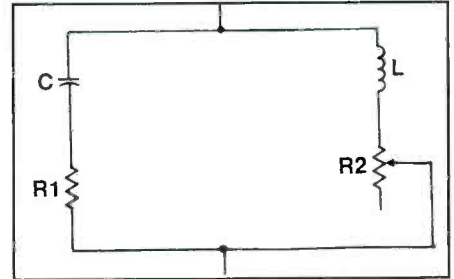

Figure 2. Can you adjust the frequency of this circuit by varying the resistance of R_2 ?
3. Can you adjust the frequency of the circuit in **Figure 2** by varying the resistance of R_2 ?
Figure 2. In pulse-width modulation, energy is stored in a magnetic field during the on cycles of the pulse train. During the off cycles, the stored energy provides output power and compensates for any changes in the line voltage or the load.
Figure 2 provides an illustration of pulse-width modulation. In the figure, the on-cycles of the pulse train energy double as the time periods for storing energy in a magnetic field. During the off cycles of the pulse train, the stored energy provides output power and compensates for any changes in the line voltage or the load. The pulse-width modulation of the switching transistor changes the conduction time of the device by varying the pulse frequency.